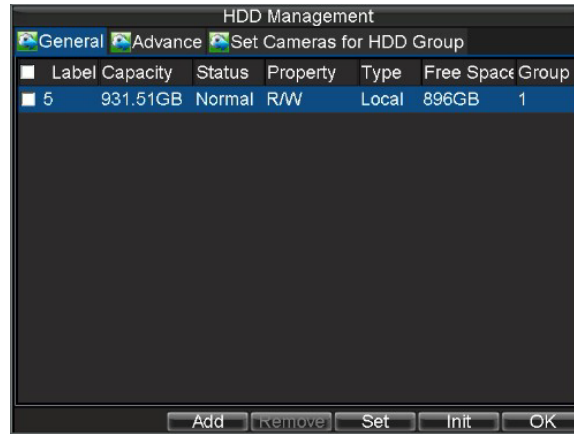

Figure 10. HDD Management Menu
3. Select the HDD to be used for redundancy, as shown in Figure 10.